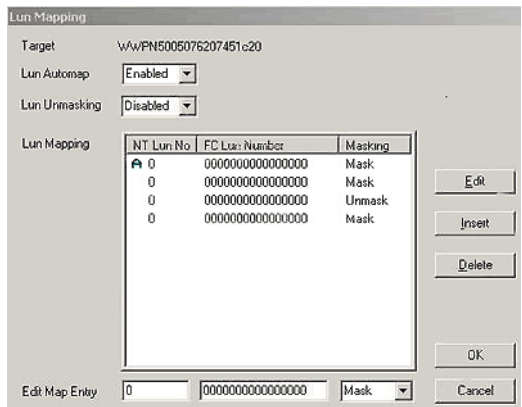

Figure 3: Lunmap window
4. Click **Lunmap**. The **Lunmap** window displays, as shown in Figure 3: